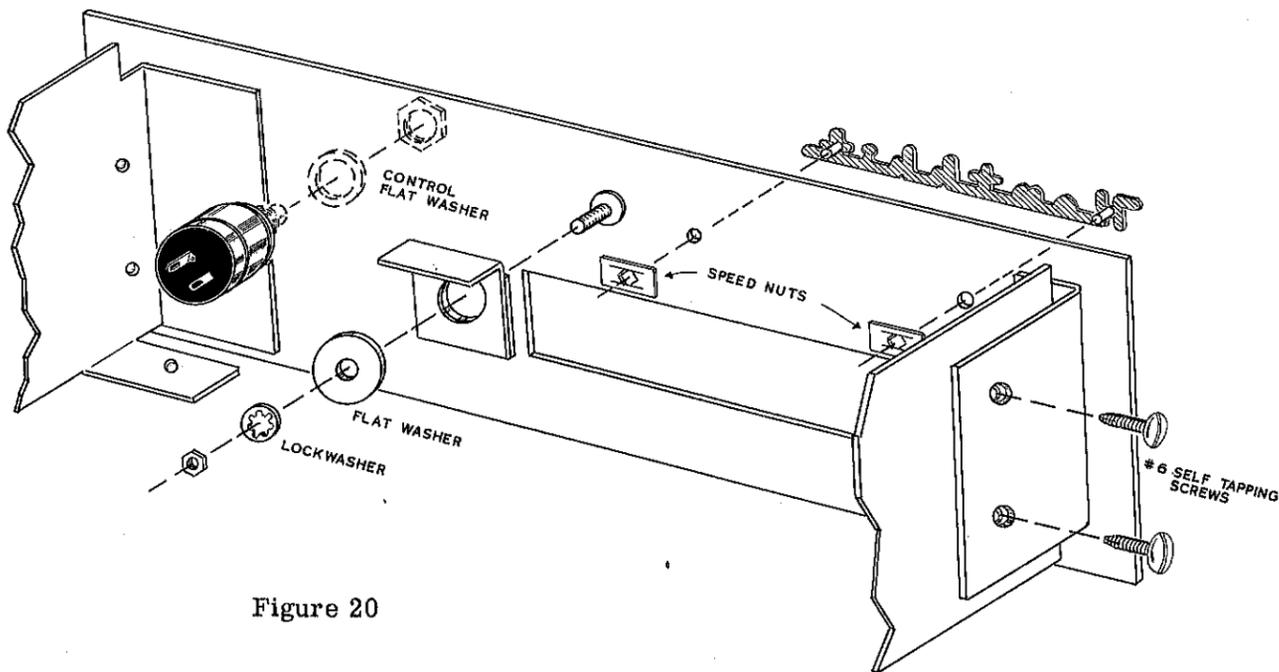

Figure 20
- () Place the panel reinforcing bracket over the stud at the center of the front panel, as shown in Figure 20. The stud goes through the bracket, a large 9/16" flat metal washer, a lock-washer and nut. Tighten in place with the bracket flange slightly below and parallel with the top of the panel. Note: Avoid bending the front panel during construction and installation of the tuner, for the glass will crack under excessive strain.
- () Install the top cover. Before sliding in place, engage the free grommet previously installed on the line cord in the slot provided at one end of the cover. Engage the front lip of the cover with the panel clamp as shown in Figures 20 and 22 and let the cover down until the bottom flanges rest on the bottom cover. Fasten in place by inserting two 6-32 self-tapping screws through the two small holes in the top rear flange of the shell. These screws will pass through slots in the rear panel and thread into the end brackets.